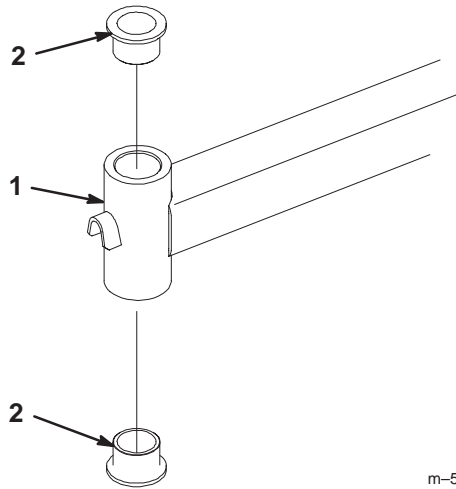

Figure 64
4. Insert a pin punch into the mounting tube and carefully drive out the bushings (Fig. 64). Clean the inside of the mounting tube.